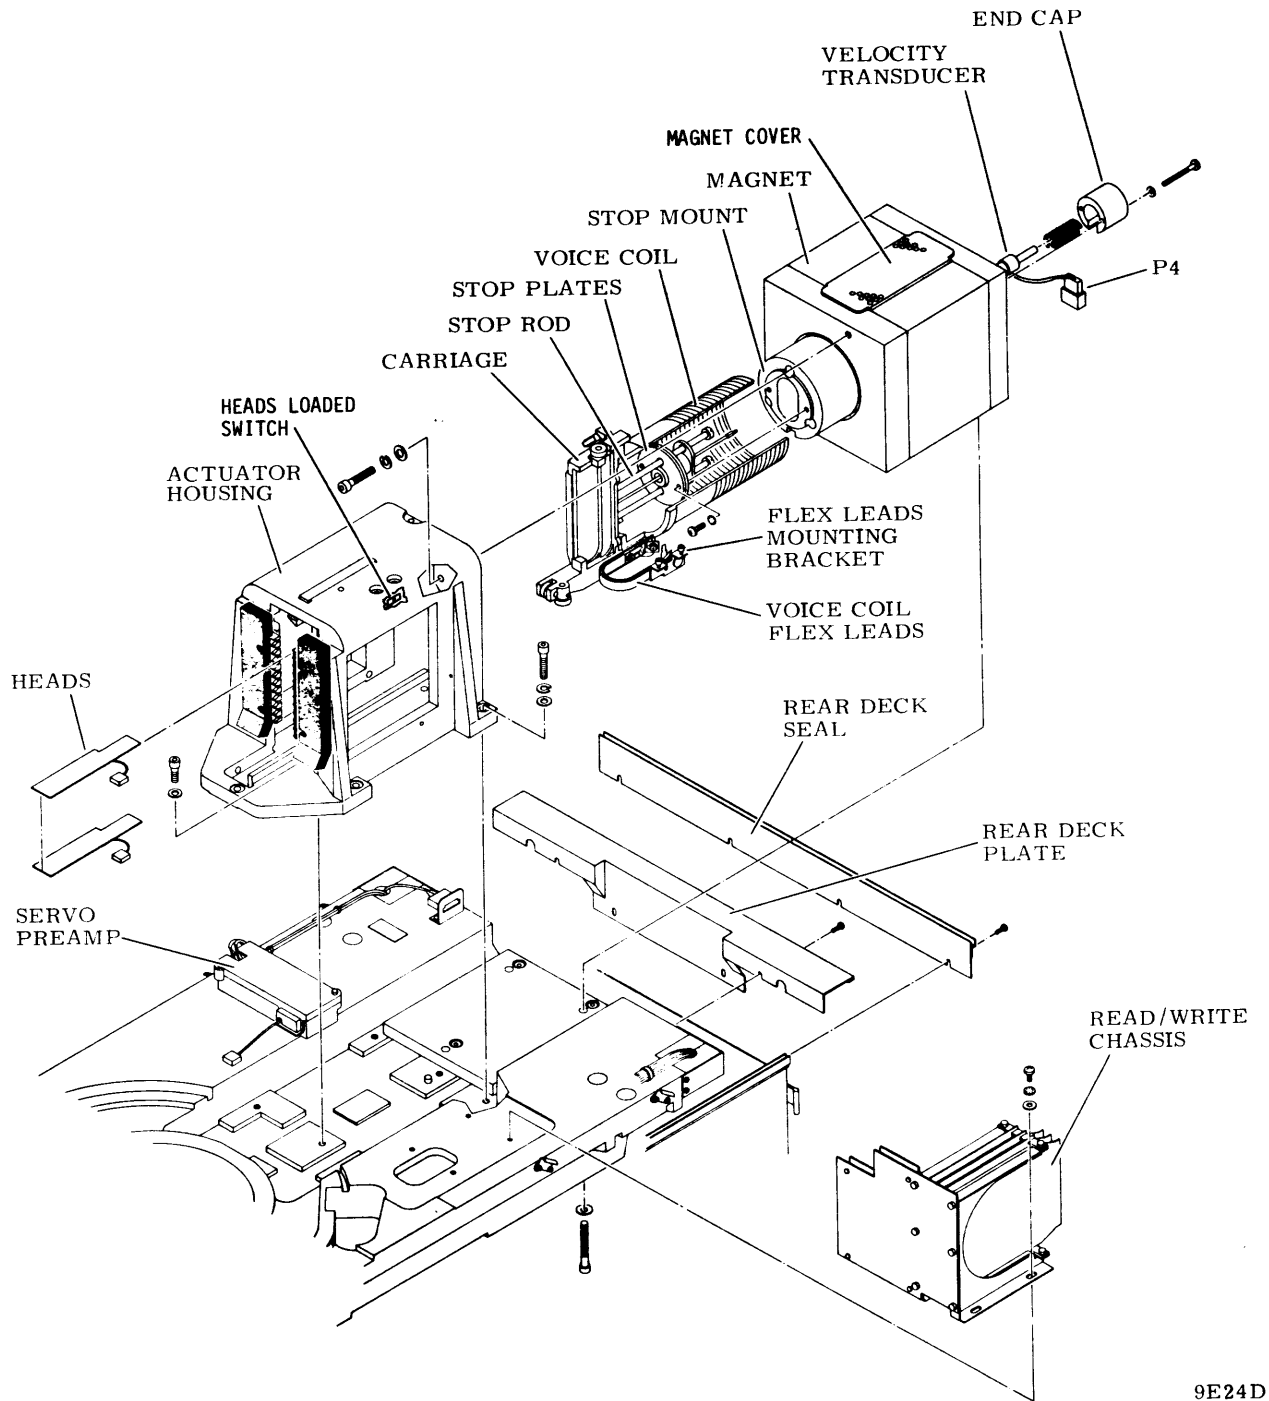

Figure 6-3. Actuator Replacement
16. Remove magnet assembly as follows (refer to figure 6-3):
37. Position rear deck plate on deck and secure (refer to figure 6-3).
38. Position rear deck seal on frame and secure (refer to figure 6-3).